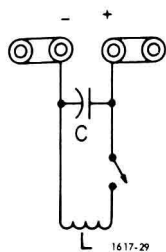

Figure 4-9. Inductance measurement by the parallel-substitution method.
- Connect the unknown inductor and the capacitor in parallel (Figure 4-9).